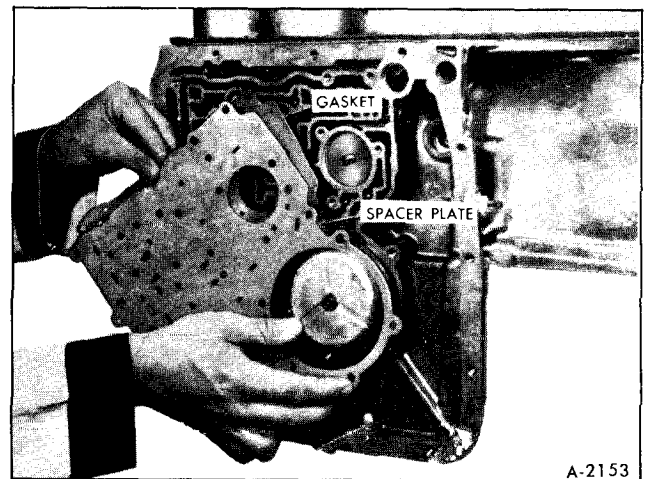

Figure 36—Removing Control Valve Spacer
8. Remove control valve spacer and spacer-to-transmission case gasket, Figure 36.